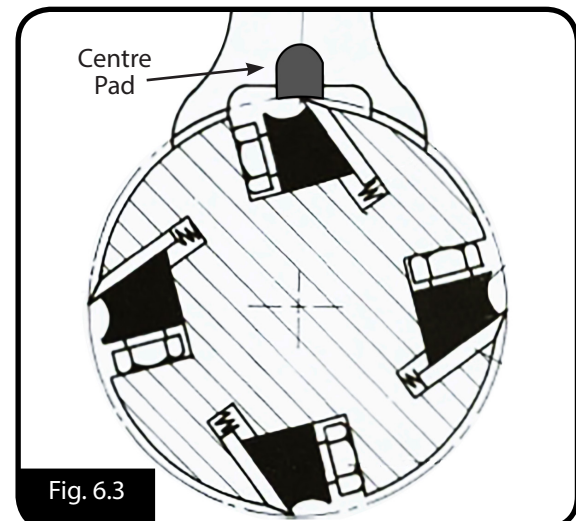

Fig. 6.3
6. Position the blade setting jig over the blade so that blade edge is directly under center pad, as shown in Fig. 6.3